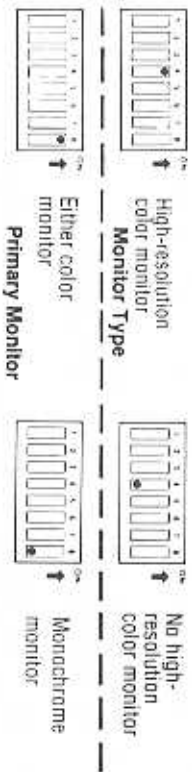

Figure 8-1. Primary Monitor Switch Settings
7. Using a ballpoint pen, set switches SW1-4 and SW1-8 on the system board to indicate what type of monitor is connected (see Figure 8-1).